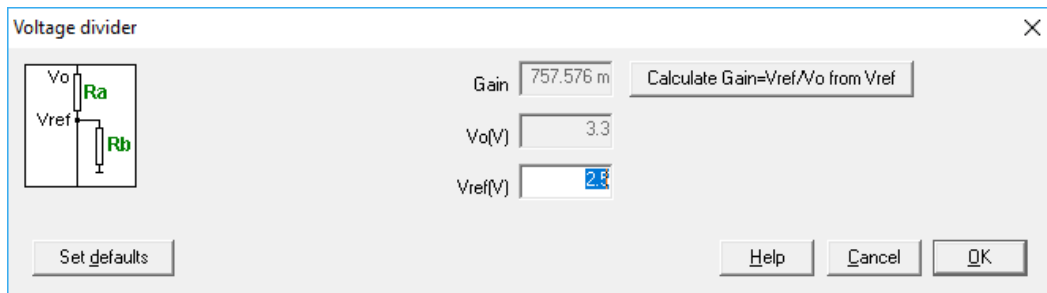

Figure 8: Voltage sensor parameters
5. Once the modulator has been defined, the voltage sensor must be selected among the available pre-defined voltage sensors. In this tutorial, a voltage divider has been selected. See Figure 8.